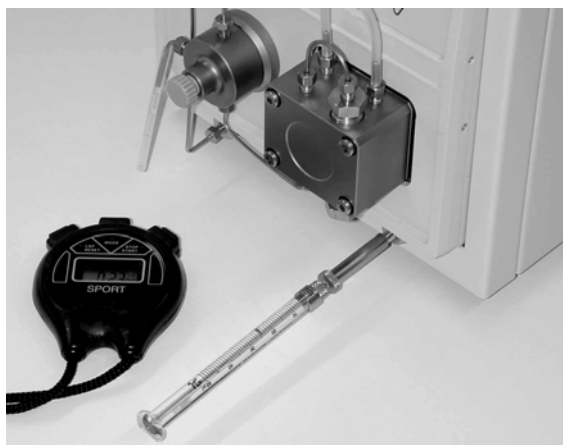

FIGURE 5-2. Placing the Syringe on the Solvent Inlet Line
- Switch the flow delivery of the loading pump off, disconnect the solvent inlet line from the pump head and connect a 250  $\mu\text{L}$  syringe (i.e. the plunger should be removed) using an adapter (P/N 160259) as shown in FIGURE 5-2.